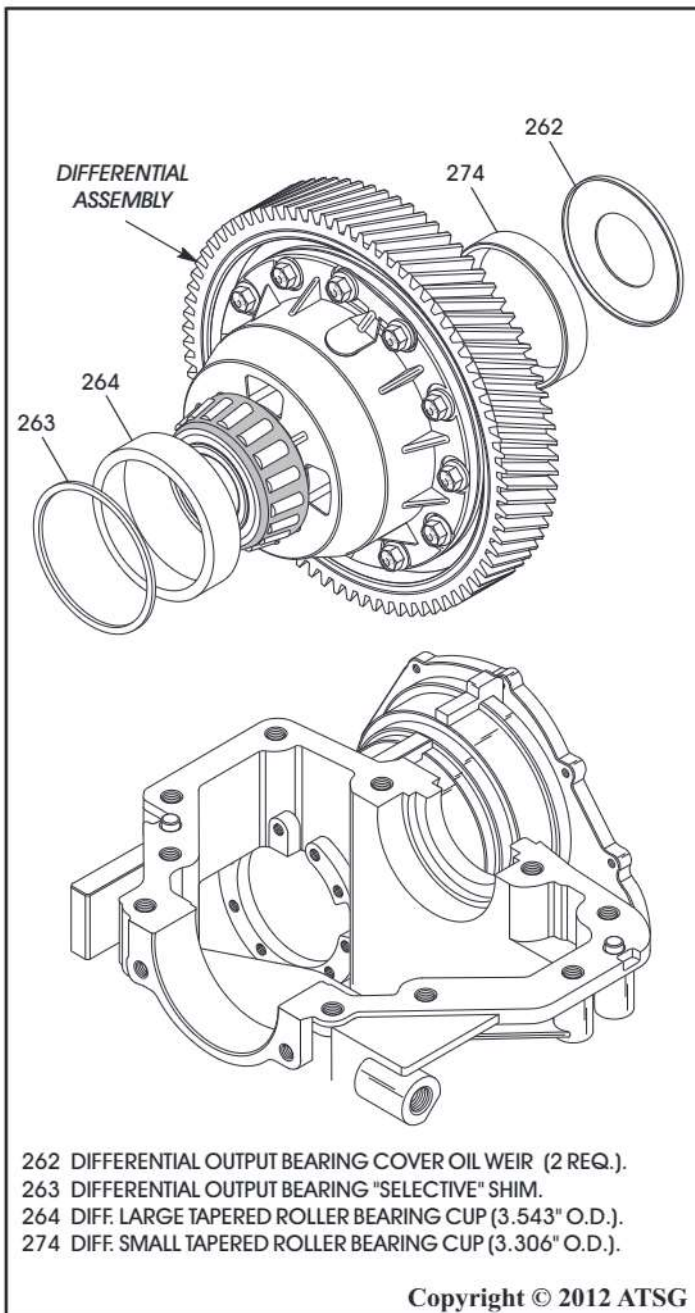

Figure 98
26. Install the completed differential assembly, both bearing cups and the oil weir as an assembly, as shown in Figure 98.
27. Install selective shim against the large tapered roller bearing cup, as shown in Figure 98.